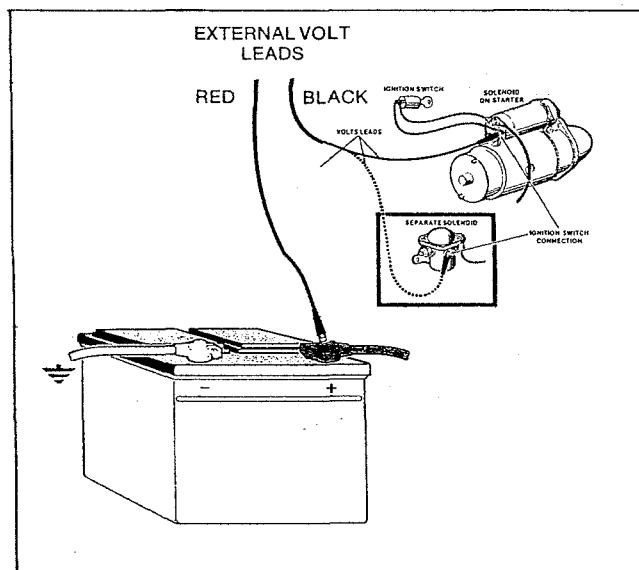

FIGURE 8. External volt lead connections for starting solenoid switch circuit resistance test.
- Observing polarity, connect volt leads to both solenoid switch terminals as shown in Figure 8.